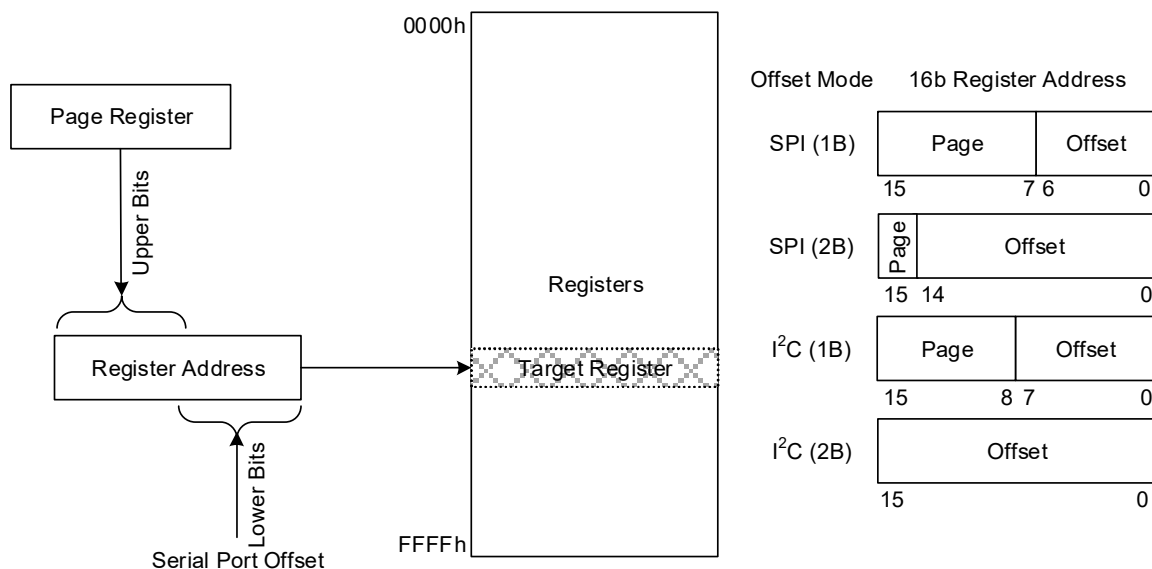

Figure 12. Register Addressing Modes Using Serial Port
You can choose to operate the serial port providing the full offset address within each burst, or to operate in a paged mode where part of the address offset is provided in each transaction and another part comes from an internal page register in each serial port. Figure 12 shows how page register and offset bytes from each serial transaction interact to address a register within the RC22514A.
The selection of 1-byte (1B) or 2-byte (2B) offset addressing must also be configured using the `ssi_addr_size` register field. These offsets are used in conjunction with the page register to access registers internal to the device (see Figure 12). Because the I2C protocol already includes a read/write bit with the Dev Addr, all bits of the 1B or 2B offset field can be used to address internal registers.
- 1-byte (1B) or 2-byte (2B) offset addressing (`ssi_addr_size`) (see Figure 12)